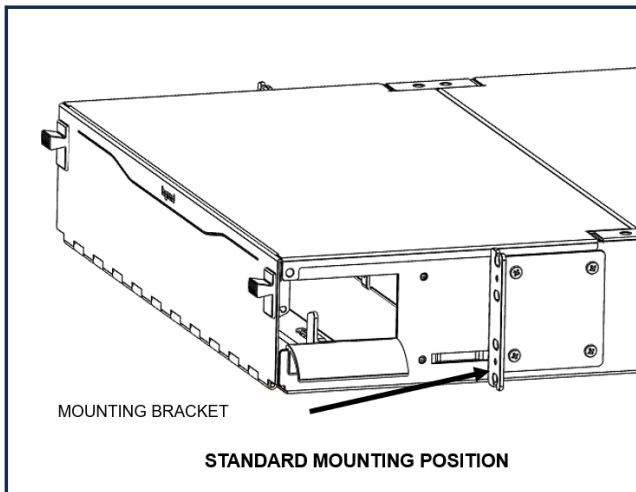
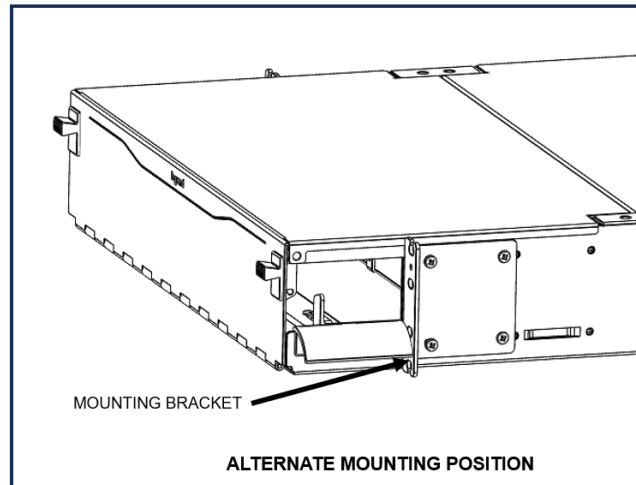

Figure 2
Figure 2a
5.3) If your enclosure does not have the mounting brackets factory installed, use a #2 Phillips Head Screwdriver and the screws provided with the enclosure to attach one mounting bracket to each side of the enclosure using the holes provided. Figure 2 illustrates the mounting scheme. An alternate mounting position (Figure 2a) is available for 19" enclosures. To have an enclosure that installs more rearward in racks use the 4-hole pattern closest to the front side of the enclosure.